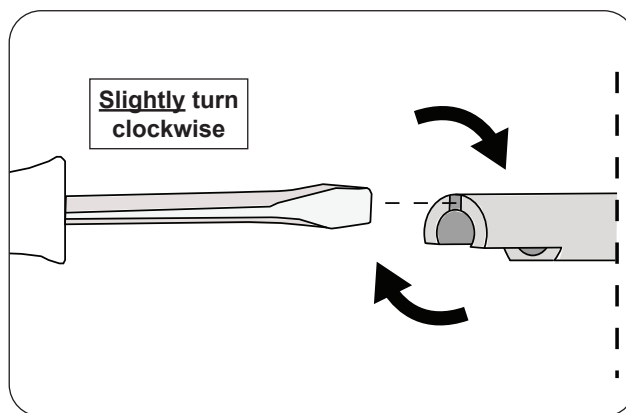

Fig. 38-2 Stem adjustment
2. Insert a flathead screwdriver into the split portion of the stem and GENTLY turn the screwdriver clockwise. Be cautious! Only a slight turn is needed as the stem is flexible. See Fig. 38-2.